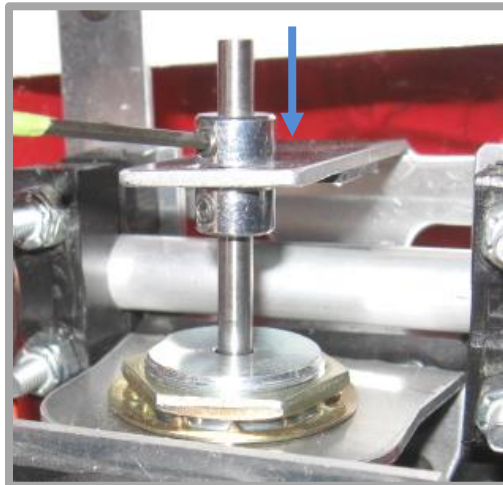

Fig. 18
4. Lock the upper locking collar to the top side of Lift Bracket and tighten set screw on collar as shown in Fig. 18. The Solenoid is now set to the proper height.